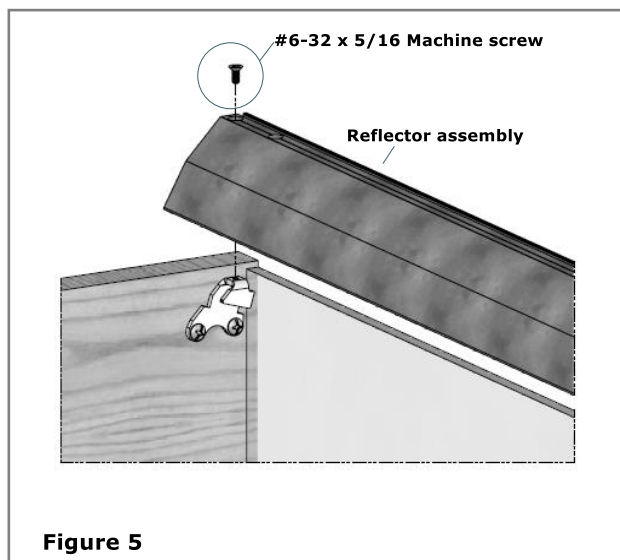

Figure 5
5. Carefully lower the reflector assembly onto the mount bracket(s) and secure using the #6-32 x 5/16" (8mm) machine screws (included in the accessory package). **See Figure 5.**